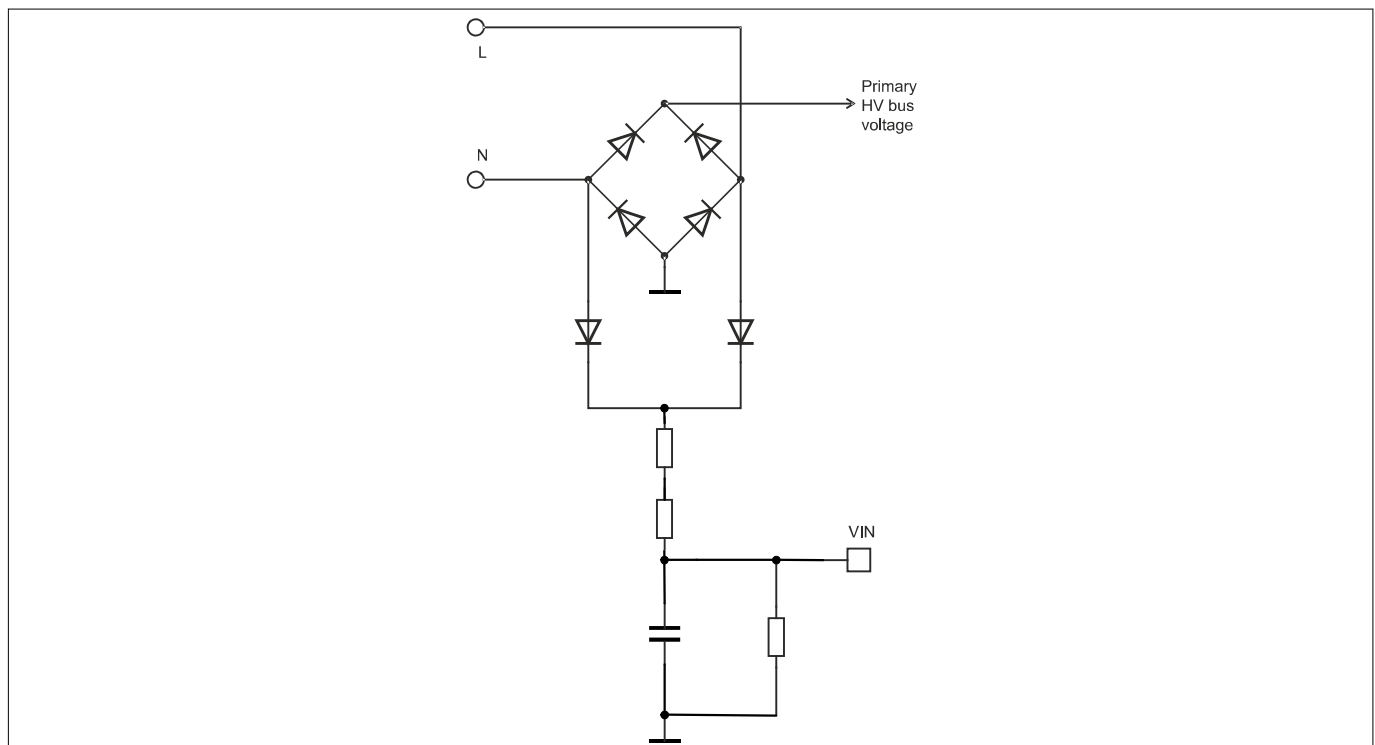
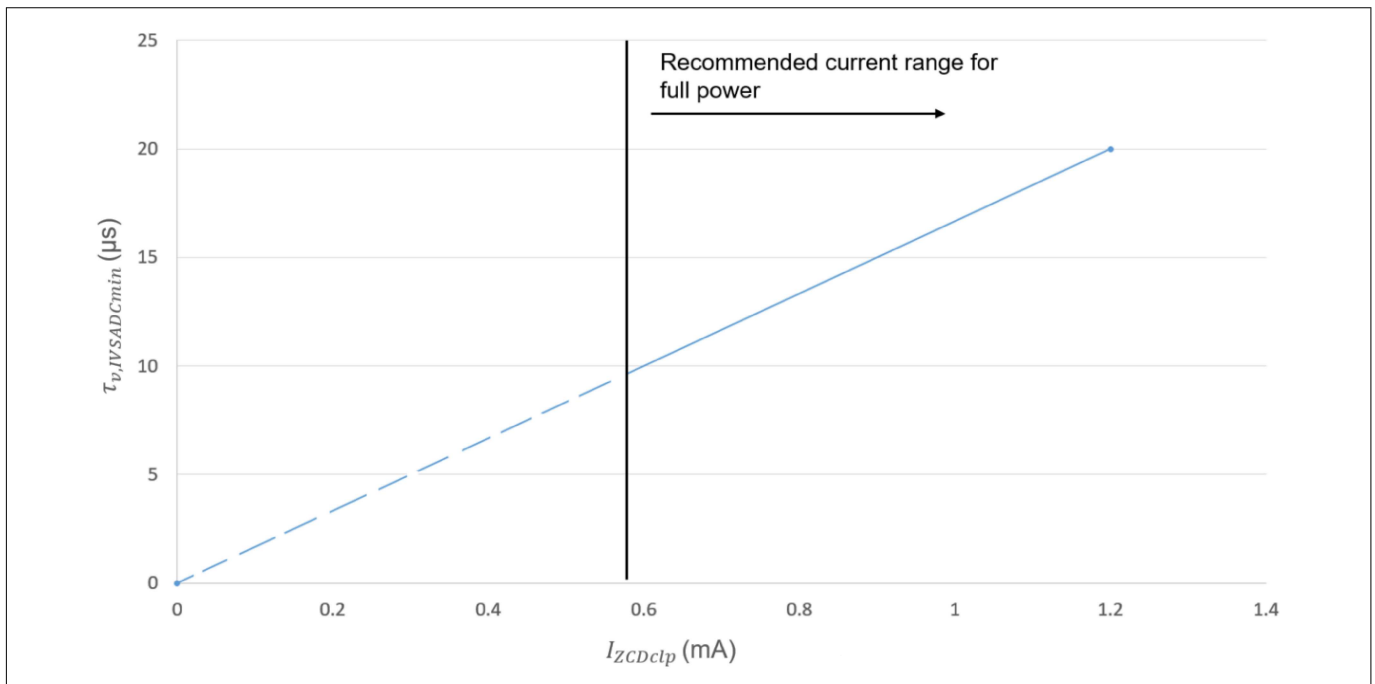
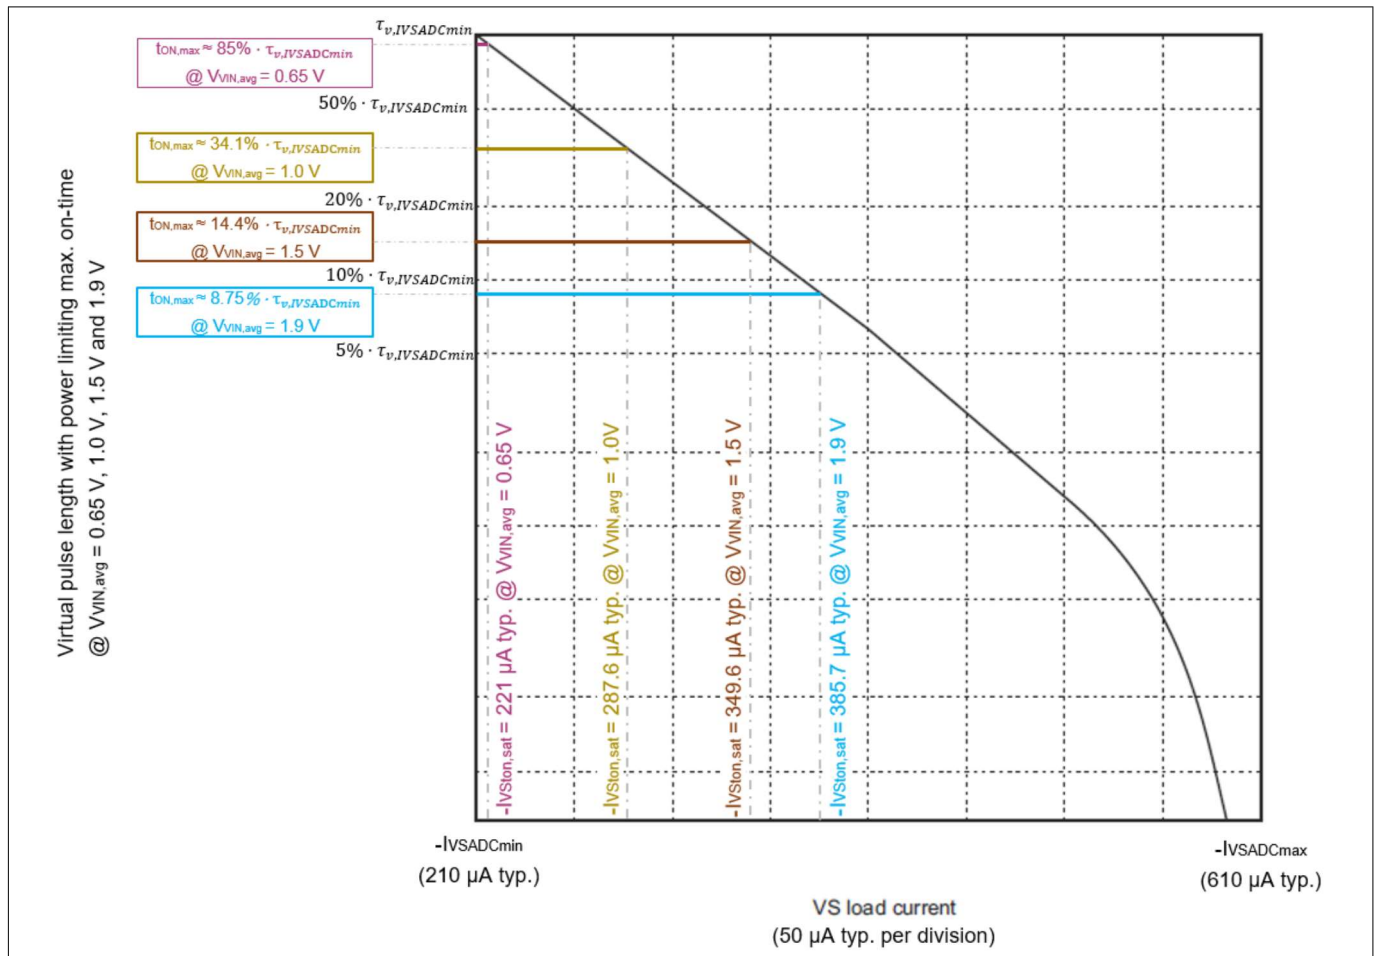

Figure 6 V_{IN} pin circuit
Figure 14 Virtual pulse length at $I_{VSADCmin}$, $\tau_{v,IVSADCmin}$ versus ZCD peak to peak settled clamping current, I_{ZCDclp}
Figure 15 Virtual pulse length mapping with power limiting maximum on-time effect
1. Based on $I_{ZCDclp} = 1.2 \text{ mA}$, obtain $\tau_{v,IVSADCmin} = 20 \mu\text{s}$ from Figure 14.
For $t_{ON,max}$ estimation, it is important to note that $\tau_{v,IVSADCmin}$ changes with different $V_{VIN,avg}$ level, when the input voltage detection circuit in Figure 6 is applied. This is because $\tau_{v,IVSADCmin}$ is scaled depending on I_{ZCDclp} in Figure 14, while I_{ZCDclp} is dependent on the input voltage, as explained in ZCD pin signal sensing.
Figure 15 shows the virtual pulse length with the power limiting maximum on-time effect, when $V_{VIN,avg}$ is 0.65 V, 1.0 V, 1.5 V and 1.9 V, respectively.
When $V_{VIN,avg}$ is at the brownin level ($V_{BI} = 0.65$ V typ.), the power limitation is enabled with $t_{ON,max} = 85\%$ of $\tau_{v,IVSADCmin}$, as shown in Figure 15. For example, if the desired $t_{ON,max}$ at brownin level is 17 µs typ., it is necessary to have $\tau_{v,IVSADCmin} = 17 \mu s / 85\% = 20 \mu s$. And, according to Figure 14, $\tau_{v,IVSADCmin} = 20 \mu s$ is obtained when $I_{ZCDclp} = 1.2$ mA is applied. As a result, to achieve $t_{ON,max} = 17 \mu s$ typ. at brownin level, R_{ZCD} should be dimensioned to produce $I_{ZCDclp} = 1.2$ mA typ. at brownin level.